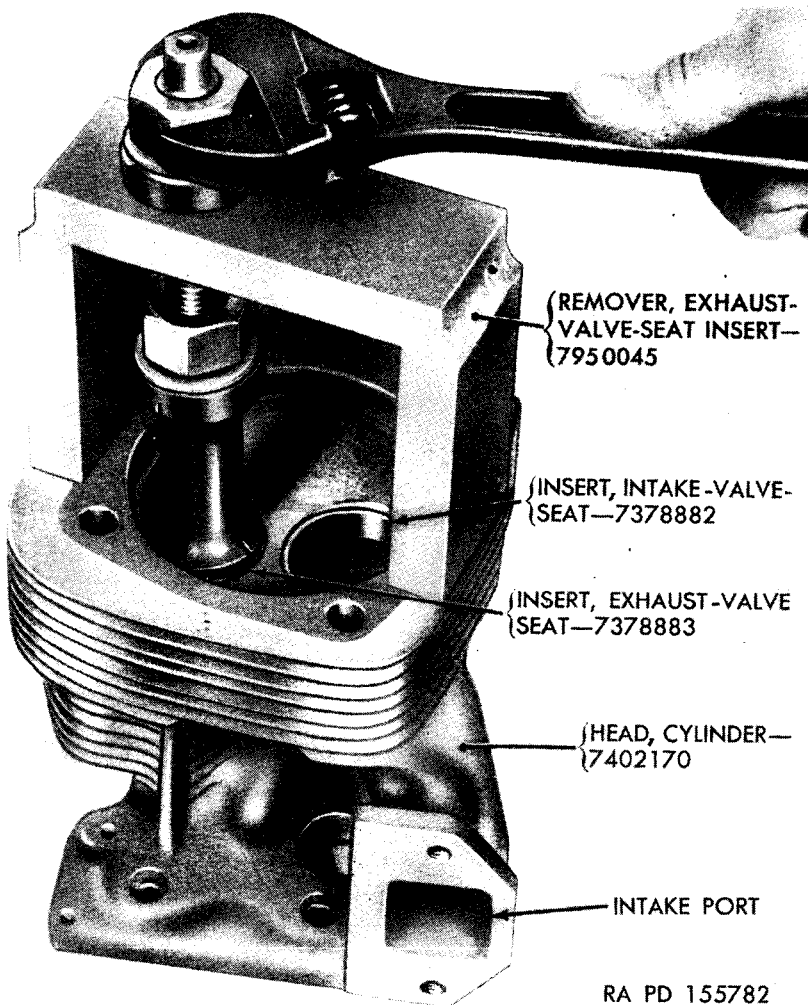

Figure 73. Removing valve-seat insert.
- (1) Rest cylinder head on work bench bottom side up. Using valve-seat-insert remover—7950045, remove exhaust-valve-seat insert (fig. 73).